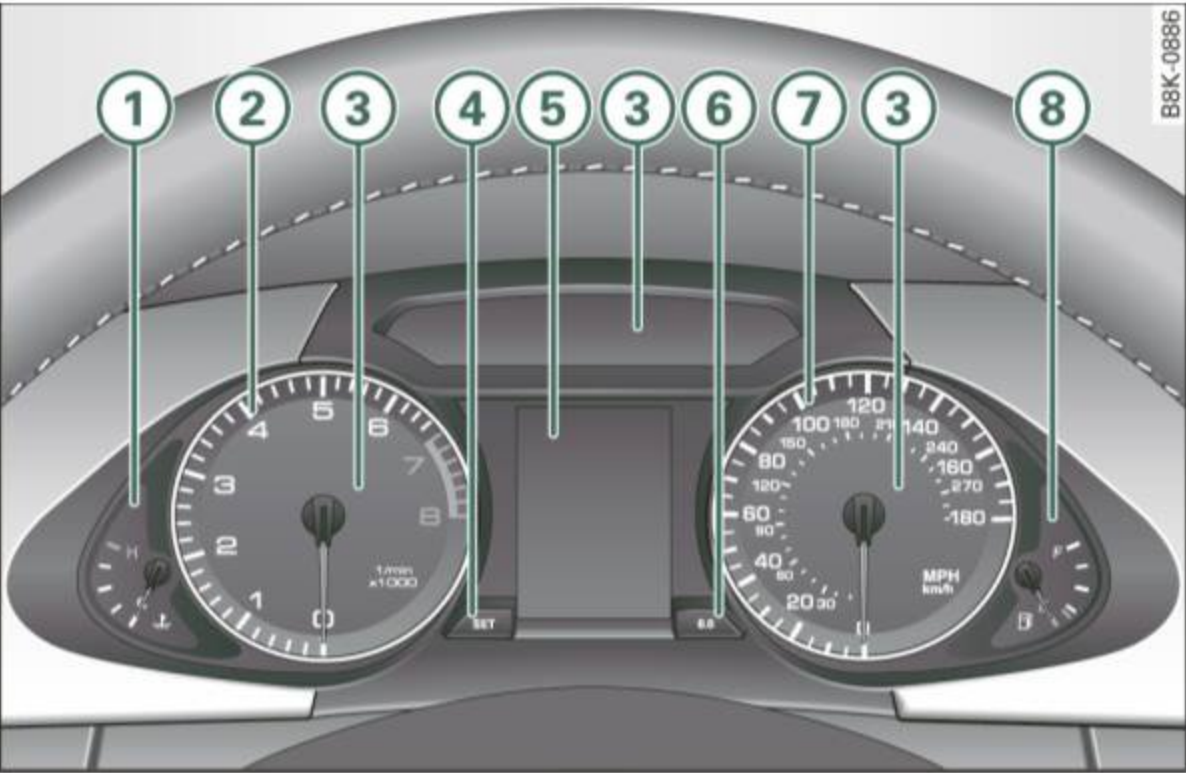

Fig. 2 Overview of the instrument cluster
The engine coolant gauge ⇒ fig. 2 ① only works when the ignition is on. To prevent damage to your engine, please note the following important points:
The tachometer needle  \Rightarrow page 8, fig. 2 should only briefly be in the red zone: you could damage your engine! The beginning of the red zone varies depending on the engine.